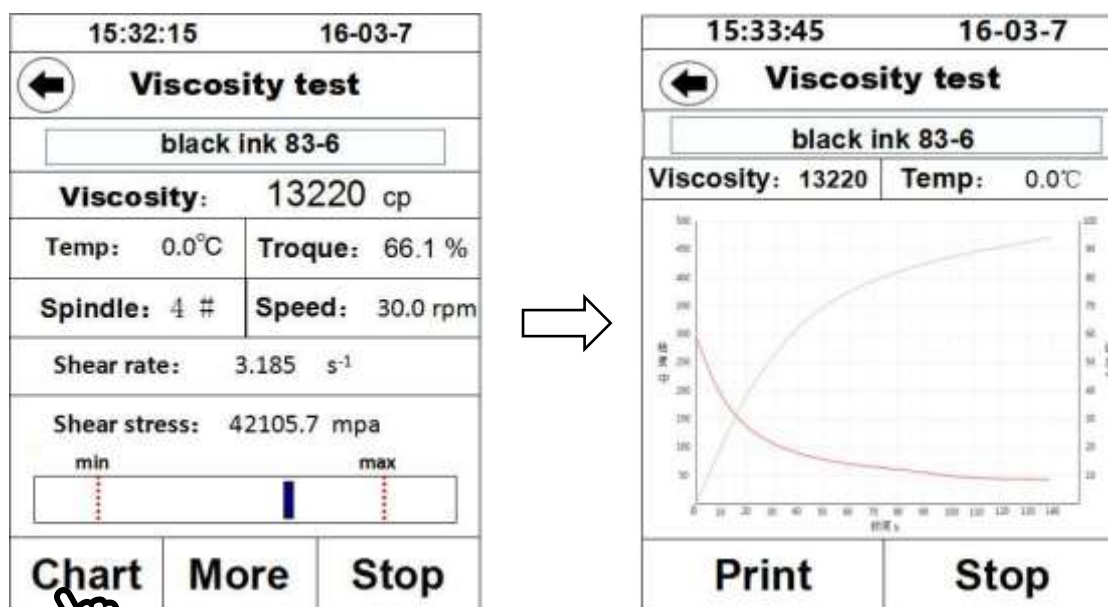

Fig. 22
1.5 Click “Chart” in testing, and the displaying interface will display the coordinate system (Fig. 22), click [←] at the left top to return to the list interface, and click “Print” to print the current test data and coordinate curve through an externally equipped printer (an external printer is required).